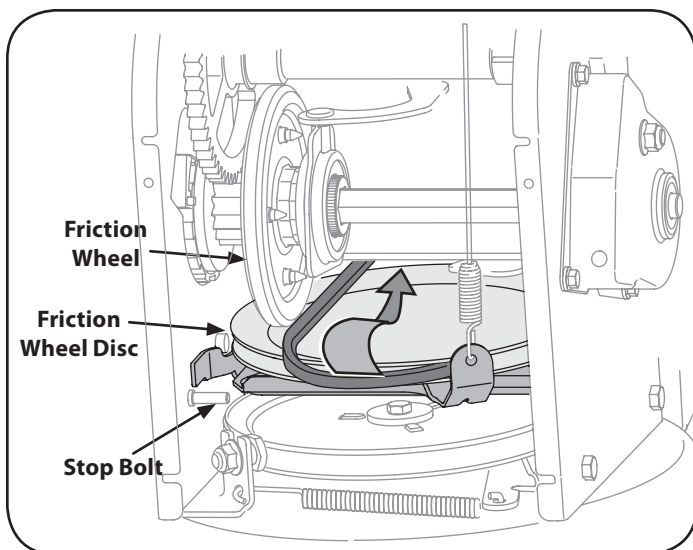

Figure 36
6. Back out the stop bolt to increase the clearance between the friction wheel disc and friction wheel. See Figure 36.
7. Slip the drive belt off the friction wheel disc and between friction wheel and friction wheel disc. See Figure 36.